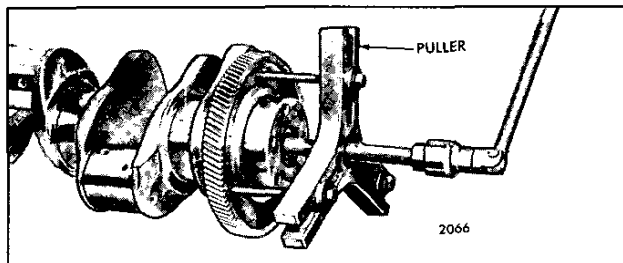

Fig. 1 – Removing Crankshaft Timing Gear with Puller J 4871
3. Attach bar type puller J 4871 to the crankshaft gear with three long bolts or hooks, flat washers and nuts through the holes in the gear (Fig. 1).